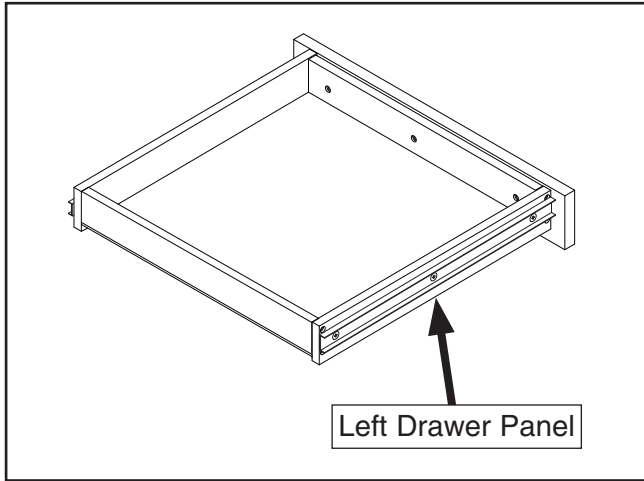

Figure 7. Left drawer panel attached.
5. Install (2) wood dowels in holes of back drawer panel.
6. Press left drawer panel onto wood dowels to attach it to front and back door panels (see **Figure 7**).